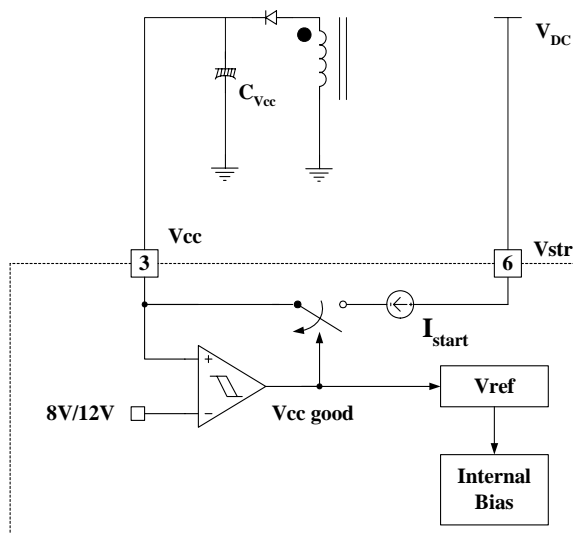

Figure 4. Internal startup circuit
**1. Startup :** In previous generations of Fairchild Power Switches (FPS™) the Vcc pin had an external start-up resistor to the DC input voltage line. In this generation the startup resistor is replaced by an internal high voltage current source. At startup, an internal high voltage current source supplies the internal bias and charges the external capacitor (CVcc) that is connected to the Vcc pin as illustrated in Figure 4. When Vcc reaches 12V, the FSDM0565RB begins switching and the internal high voltage current source is disabled. Then, the FSDM0565RB continues its normal switching operation and the power is supplied from the auxiliary transformer winding unless Vcc goes below the stop voltage of 8V.